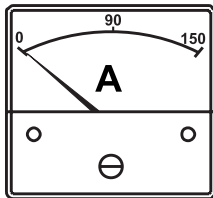

Figure 61. AC Ammeter (No Load)
7. The **AC ammeter** (Figure 61) will indicate **zero amps** with no load applied. When a load is applied, the ammeter will indicate the amount of current that the load is drawing from the generator.